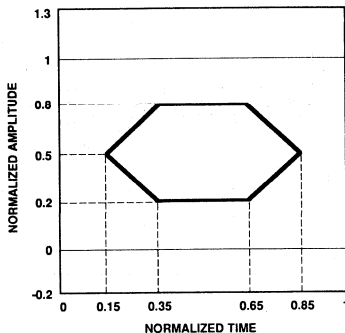

Figure 11. Eye Diagram.
4. Eye opening is the portion of the bit time which is error free for a given bit error rate (BER). The Fiber Channel standard for BER is $< 10^{-12}$. The general laser transmitter pulse shape characteristics are specified in the form of a mask of the transmitter eye diagram. These characteristics include rise time, fall time, pulse overshoot, pulse undershoot, and ringing, all of which should be controlled to prevent excessive degradation of the receiver sensitivity. For the purpose of an assessment of the transmit signal, it is important to consider not only the eye opening, but also the overshoot and undershoot limitations. The parameters specifying the mask of the transmitter eye diagram are shown in Figure 11.
5. Random Jitter (RJ) is due to thermal noise which may be modeled as a Gaussian process. The peak-to-peak value of RJ is of a probabilistic nature and thus any specific value requires an associated probability.